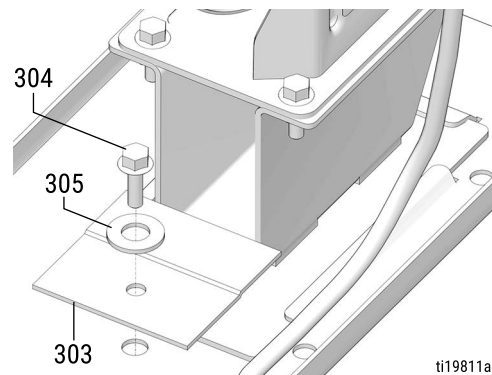

FIG. 17
6. Install the hold down plate (303) using bolts (304) and washers (305) (FIG. 17).